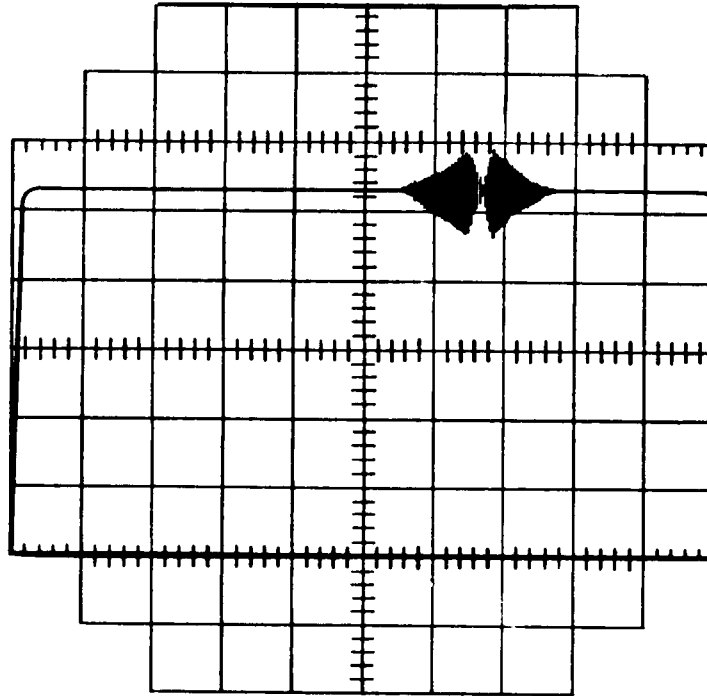

Figure 6. Internal frequency marker.
(18) Set the SWEEP WIDTH control to the NAR position.
(19) Rotate the SWEEP WIDTH ADJUST control counterclockwise until the 1000-MHz marker approximates that shown in figure 6.